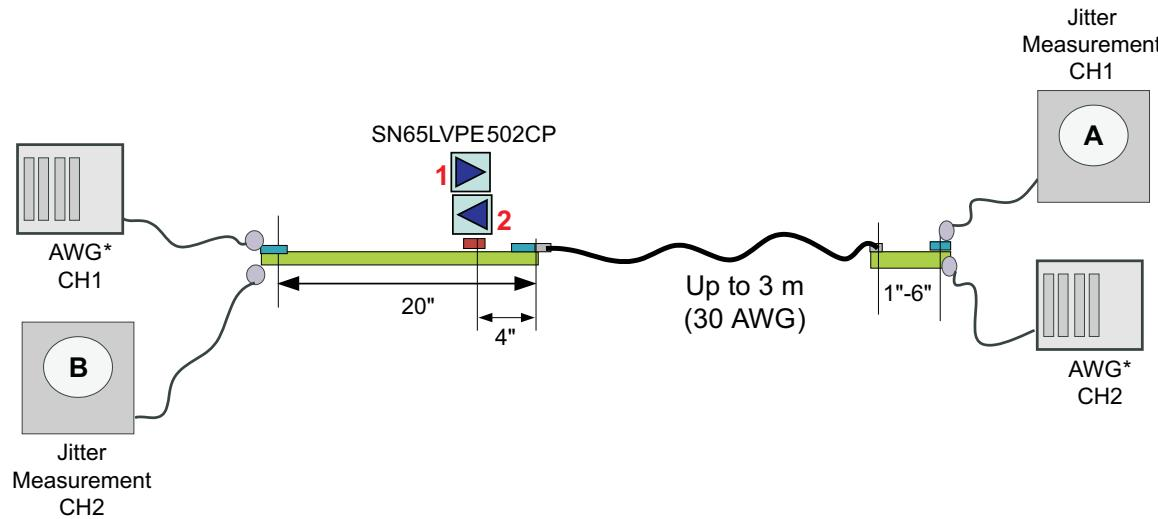

Figure 6. Jitter Measurement Setup
(1) Includes RJ at 10^{-12} BER
(2) Deterministic jitter measured with K28.5 pattern, Random jitter measured with K28.5 pattern at the ends of reference channel in Figure 6, VID=1000mVpp, 5Gbps, -3.5dB DE from source
(3) UI = 200ps
(4) RJ calculated as 14.069 times the RMS random jitter for 10^{-12} BER